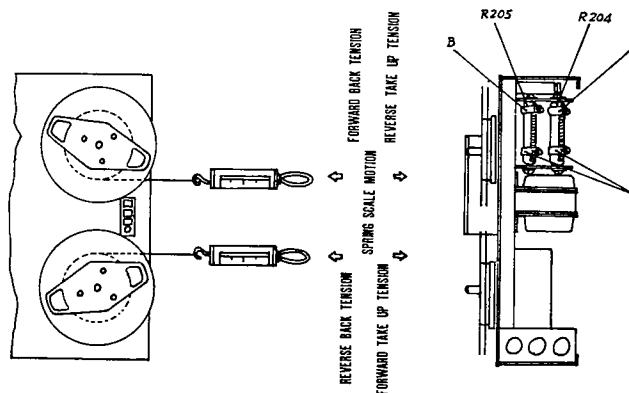

FIG. 6 TAKE-UP AND SUPPLY TENSION ADJUSTMENTS
Take-up and supply tension in forward and reverse play mode are determined by the positioning of the sliders on resistors R 204 and R 205 located in the tape transport control chassis (Fig. 6). The torque of both the left and right reel motors must be adjusted as follows.
10. Next operate the reverse switch lever, then check the torque using the same procedure as above. However, spring scale motion are reversed (See Fig. 6), The scale should be indicated approximately 1.7 ~ 2.4 ounces by adjusting the slide B on resistor R 204.